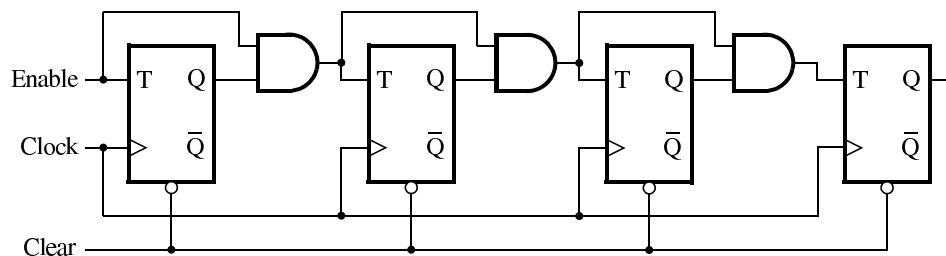

Figure 1: A 4-bit counter.
Consider the circuit in Figure 1. It is a 4-bit synchronous counter ~~which~~ uses four T-type flip-flops. The counter increments its value on each positive edge of the clock if the *Enable* signal is asserted. The counter is reset to 0 by setting the *Clear* signal low – it is an active-low asynchronous clear. You are to implement an 8-bit counter of this type.
1. Write a Verilog file that defines an 8-bit counter by using the structure depicted in Figure 1. Your code should include a T flip-flop module that is instantiated 8 times to create the counter (i.e. structural Verilog). Compile the circuit. How many logic elements (LEs) are used to implement your circuit? What is the maximum frequency, F_{max} , at which your circuit can be operated? (Use TimeQuest in Quartus to determine the maximum frequency F_{max} .)
- Use the Quartus II RTL Viewer to see how Quartus II software synthesized your circuit. What are the differences in comparison with Figure 1?